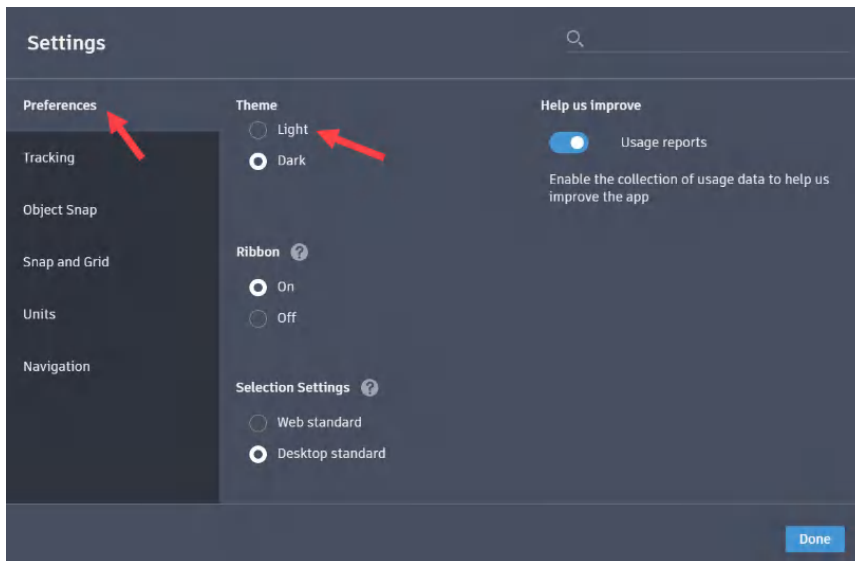

Figure 15.12: The Settings dialog box for AutoCAD Web
6. In the *top-right* corner of the AutoCAD Web interface, you will see a **Settings** icon represented by a small *gearwheel* symbol. Click on the gearwheel to open the **Settings** dialog box, as shown in Figure 15.12.